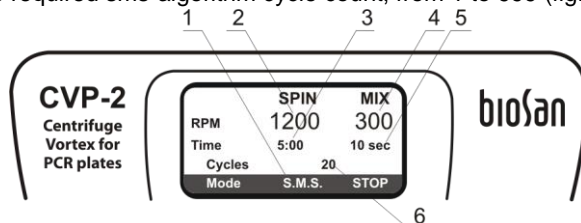

Fig. 3. Sms-algorithm
- 4.7.4. **Mode** (fig. 3/1) parameter can be one of the following:
- 4.8.1. Select the sms-algorithm (indication **S.M.S.** of **Mode** parameter, fig. 3/1).
- 4.8.2. Set the required centrifugation speed, from 300 to 1500 rpm (increment 100 rpm, fig. 3/2).
- 4.8.3. Set the required centrifugation time, from 1 s to 30 min (increment 1 s, after 1 min - 1 min, fig. 3/3).
- 4.8.3. Set the required vortexing speed, from 300 to 1200 rpm (increment 100 rpm, fig. 3/4).
- 4.8.4. Set the required vortexing time, from 1 to 60 s (increment 1 s, fig. 3/5).
- 4.8.5. Set the required sms-algorithm cycle count, from 1 to 999 (fig. 3/6).
- 4.9.5. Set the required sms-algorithm cycle count, from 1 to 999 (fig. 3/6).
- to open a powered unit, press **Open** key (fig. 3/1) and open the outer lid lifting it upwards by hand;